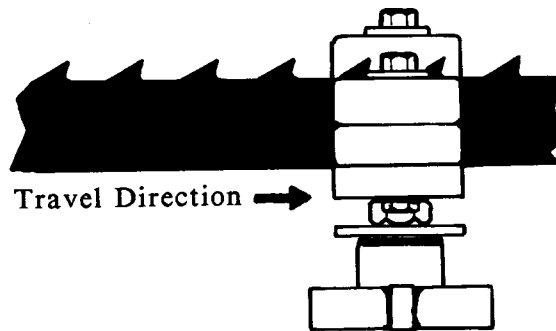

FIGURE 2
4. Place the blade between the two stacks of rollers on the equalizer. Start with the weld as a reference. Pull the blade through the rollers so that the cutting face of the teeth enters the equalizer first as shown in Figure 2. Pull the blade through two complete revolutions.